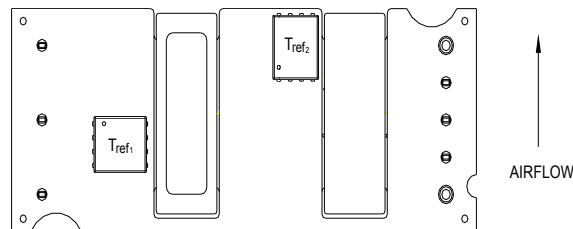
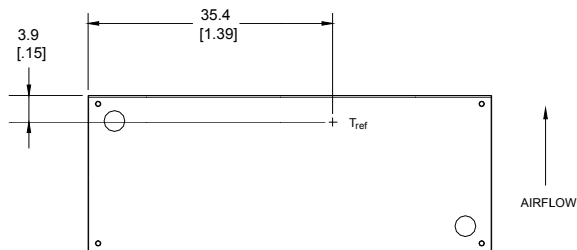

Figure 13. T_{ref} Temperature Measurement Locations for Open Frame Module.
Figure 14. T_{ref} Temperature Measurement Location for Module with Heat plate.
To provide protection under certain fault conditions, the unit is equipped with a thermal shutdown circuit. The unit will shutdown if the thermal reference point, T_{ref} , exceeds 135 °C (Figure 13, typical) or 120 °C (Figure 14, typical), but the thermal shutdown is not intended as a guarantee that the unit will survive temperatures beyond its rating. The module will automatically restart upon cool-down to a safe temperature.
The thermal reference points, T_{ref1} , & T_{ref2} , used in the specifications for open frame modules are shown in Figure 13. For reliable operation these temperatures should not exceed 120 °C and 124 °C
The thermal reference point, T_{ref} , used in the specifications for modules with heatplate is shown in Figure 14. For reliable operation this temperature should not exceed 98 °C.